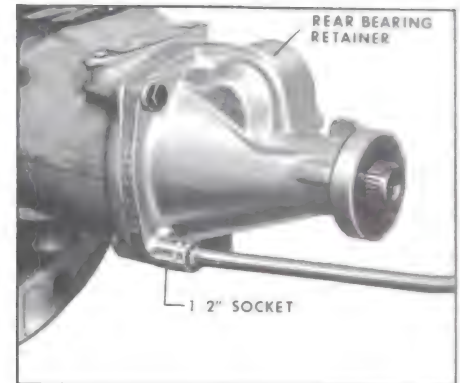

Figure 5-337.
2. Install rear bearing retainer to case and install four (4) retaining bolts, using a 9/16 inch socket. Torque bolts to 25-35 ft. lbs. torque. See Figure 5-337.